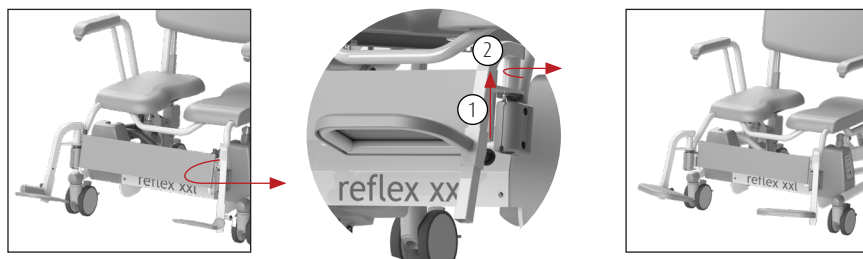

Figure 10. Width adjustment Reflex XXL.
- The footrests of the Reflex XXL can be adjusted 30 degrees outward. To do this, lift the footrest (1) and turn it to the desired position (2). Please note: ensure that the locking pin clicks properly into place (See figure 10).